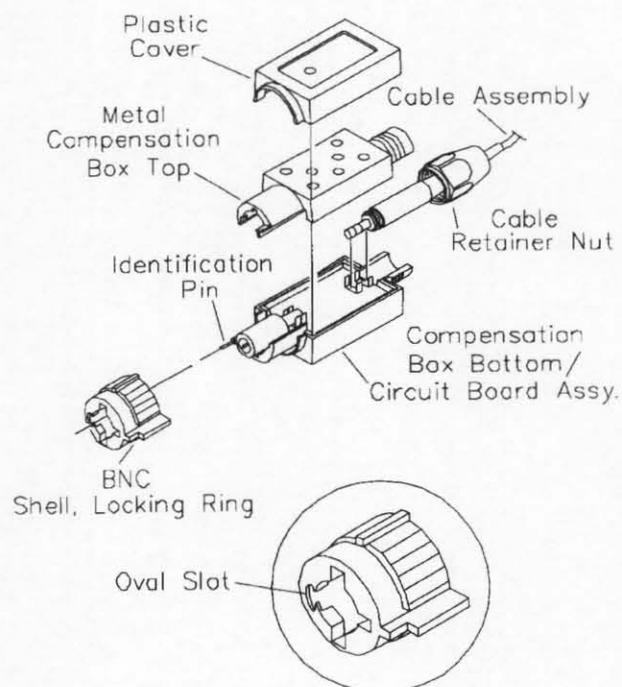

Figure 8: Compensation box assembly
Use the following procedure to disassemble and replace the compensation box or the cable assembly (refer to Figure 8 for parts nomenclature).
8. Press the new BNC shell onto the compensation box making sure the identification pin goes through the oval slot in the shell (see Figure 8).